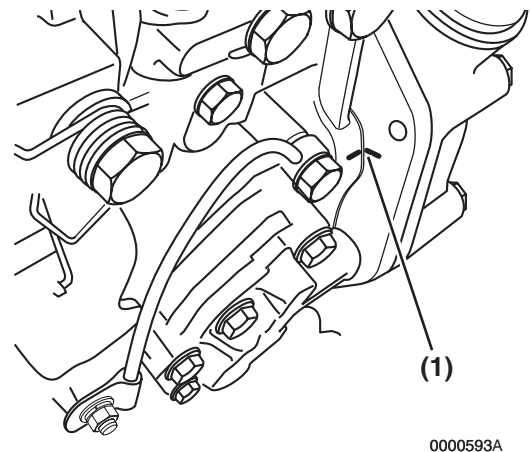

Figure 7-15
22. Locate the mark stamped into the upper outside mounting boss of the fuel injection pump. Highlight this mark and make a corresponding mark on the gear case or front plate (**Figure 7-15, (1)**).